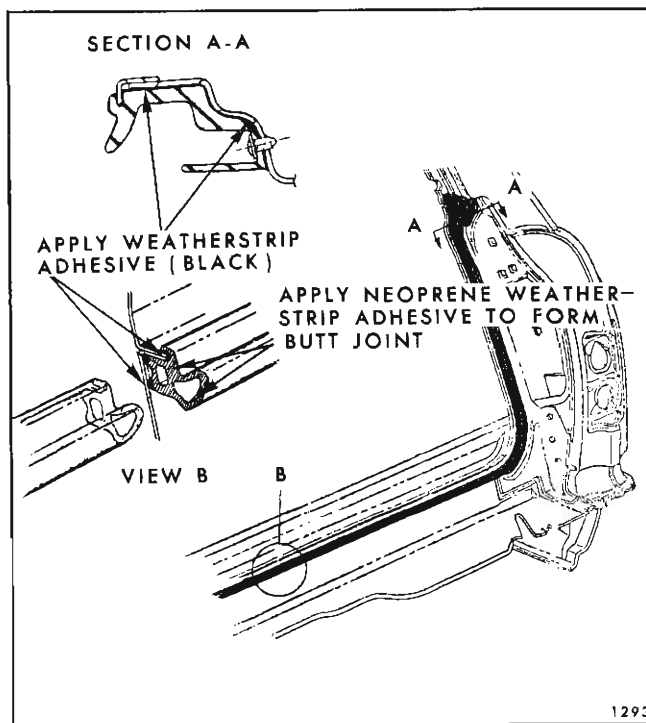

Fig. 2F28—Tail Gate Weatherstrip Installation
1. Open tail gate. Remove screw securing upper end of weatherstrip to body (Section "A-A", Fig. 2F28).
2. Apply (brush) a continuous coat of weatherstrip adhesive (black) to attaching surfaces of weatherstrip and corresponding cementing surfaces on back body opening. (See Sections "A-A", "B-B", "C-C" Fig. 2F28).
3. Locate the upper end of weatherstrip to body opening making sure formed section of weatherstrip and attaching screw hole are properly aligned. (See Section "A-A", Fig. 2F28). Insert remainder of weatherstrip into gutter along body pillar and on pinchweld flange along bottom of opening.